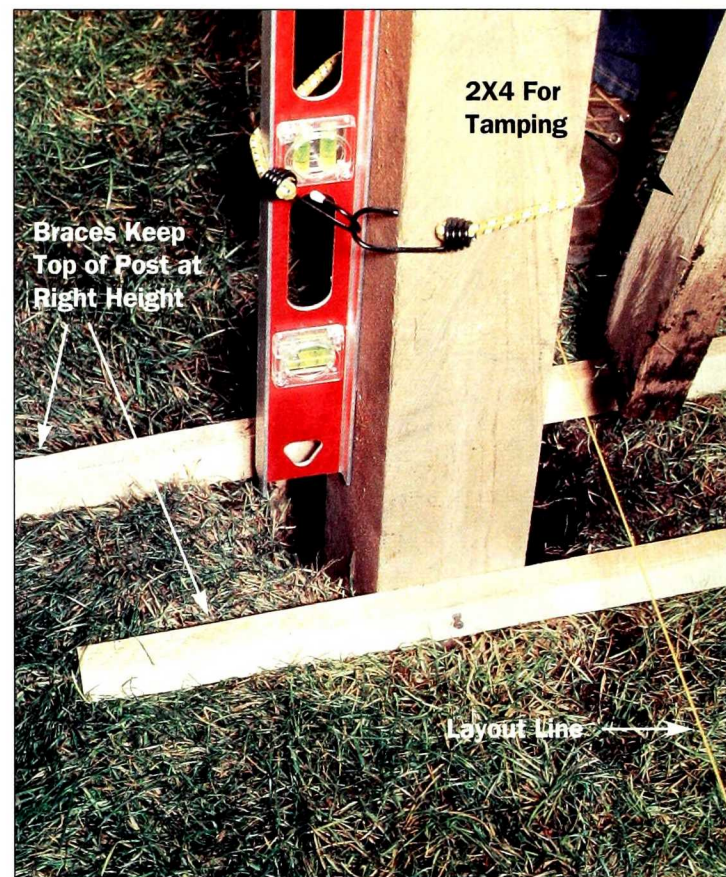

Figure 2: Tamp gravel around the bottom of the post, then brace it to stay plumb and against the layout line. Fill hole with concrete.
- Lay out four string lines so they cross where the outer edges of the posts (A) will be located (see plans). Check the corner-to-corner measurements to be sure the lines are at right angles. Dig the post holes.
- Cut the four posts (A) to length (Figure 1). Sand them to get a smooth paint finish. Nail on a pair of braces at ground level to hold the posts at the right height (Figure 2).
- When the posts are plumb, the sides lined up, and the tops at the same height, add an additional 3 to 4 inches of gravel and tamp it down (Figure 2). Mix concrete and pour it into the post holes. Allow it to cure for several days.